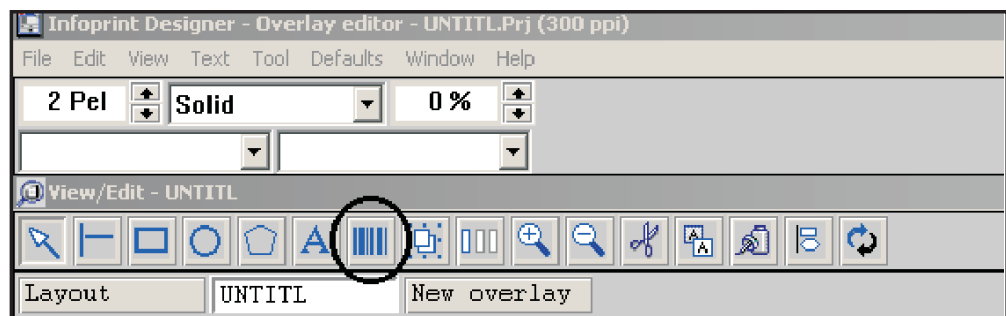

Figure 42. The Bar Code Tool Button
1. From the project window, click the bar code tool on the toolbar. The bar code tool is circled in Figure 42.